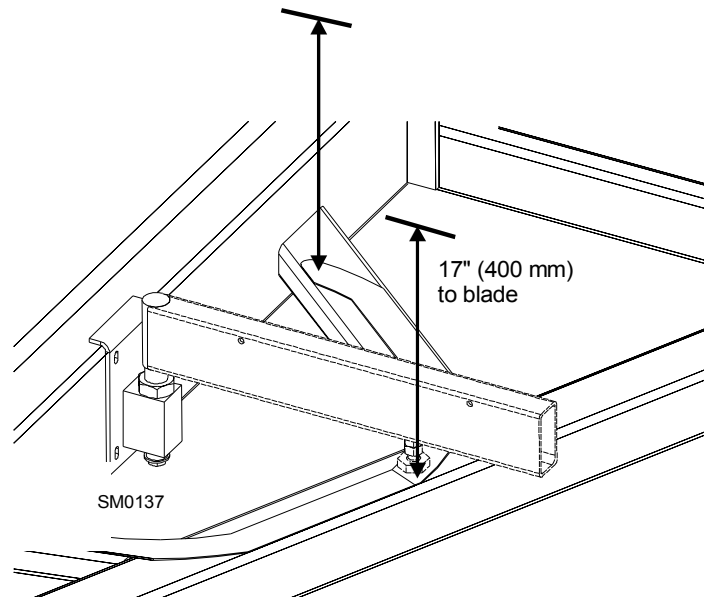

**FIG. 5-5**
**See Figure 5-5.** Making these adjustments correctly will give you square cuts and accurate dimensions across the width of your boards.